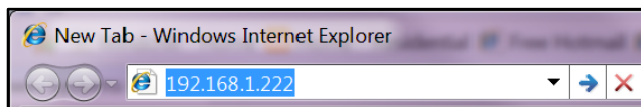

Figure 11 Enter Gateway Address in Internet Explorer
- 7.2 Type 192.168.1.222 in the address bar. See Figure 11.